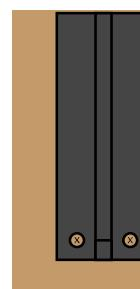

Figure 3
- 1.** Using the bracket's lower leg as a template, mark and drill four (4) pilot holes per bracket (*see Figure 3*).
- 3.** Double Check the levelness across the brackets. Make any adjustments as necessary, then fully tighten all screws (*see Figure 3*).